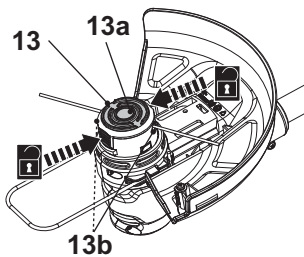

Fig. 25
2. Hold the trimmer head (13) steady with one hand. Press the release latches (13b) on both sides, then lift the cover (13a) and remove it (Fig. 25).
6. Release the trimming line (13d) from the notches and hold it in position. Avoid the trimmer line (13d) scattered from the trimming spool (13c) (Fig. 25, Step 1).
7. Lead the trimming line (13d) ending through the eyelet (13h) of the housing (13e) (Fig. 25, Step 2).
8. Insert the trimming spool (13c) into the housing (13e) (Fig. 25, Step 3). Twist the trimming spool (13c) until it locks into place.